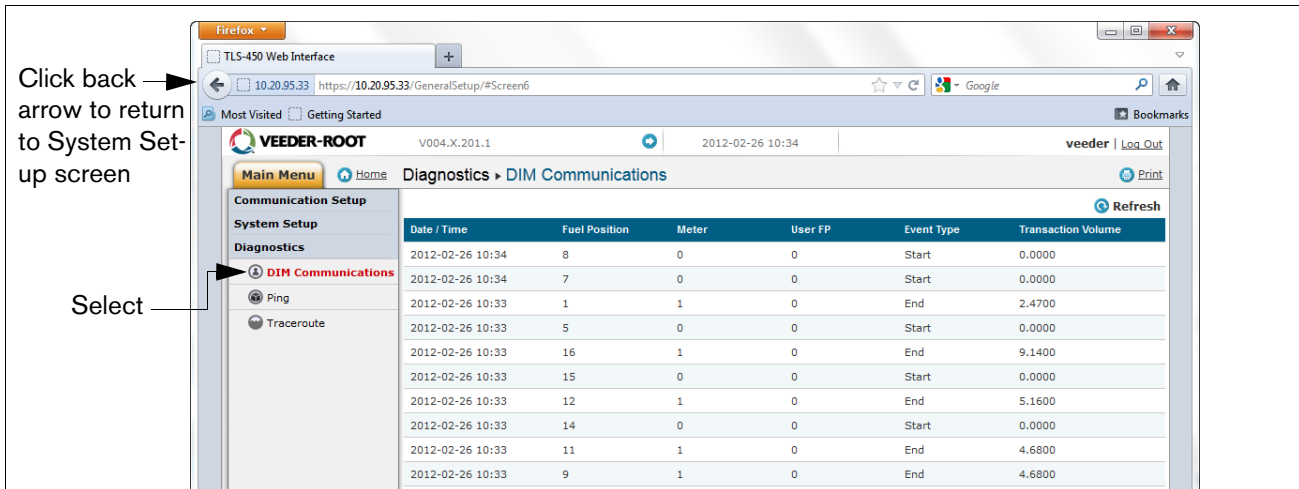

Figure 17. Verifying DIM Communication
14. In the "Diagnostics" page (lower left in above figure), click on "DIM Communications" to verify that the DIM communications are successfully being recorded by the DL4. Any transactions occurring after the DL4 was configured will be shown on the screen (see example in Figure 17).